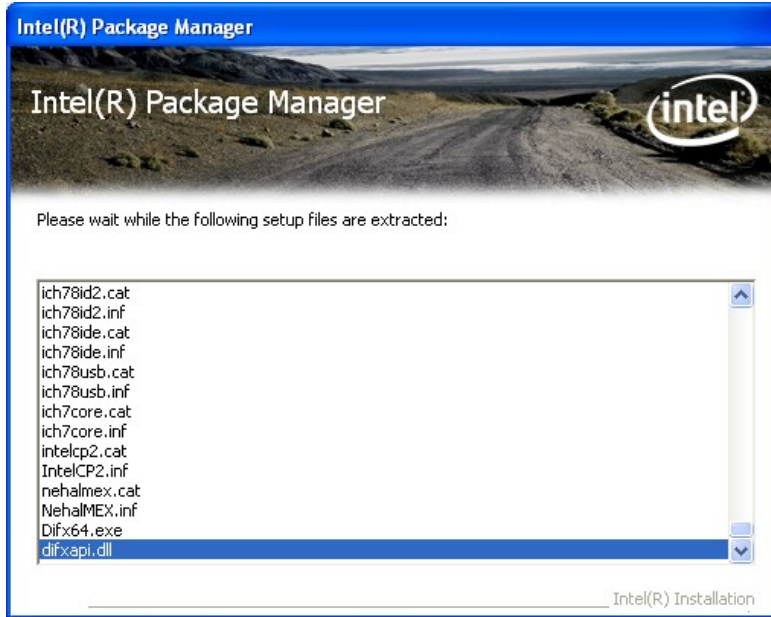

Figure 6-2: Chipset Driver File Extraction Screen
- Step 3:** The setup files are extracted as shown in **Figure 6-2**.